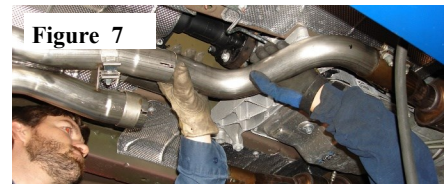

Figure 7
4. Place a clamp over end of **X-Pipe Assembly** and fit into both **R/H & L/H Front Pipes** (See Fig. 7) . Do Not tighten the clamps.